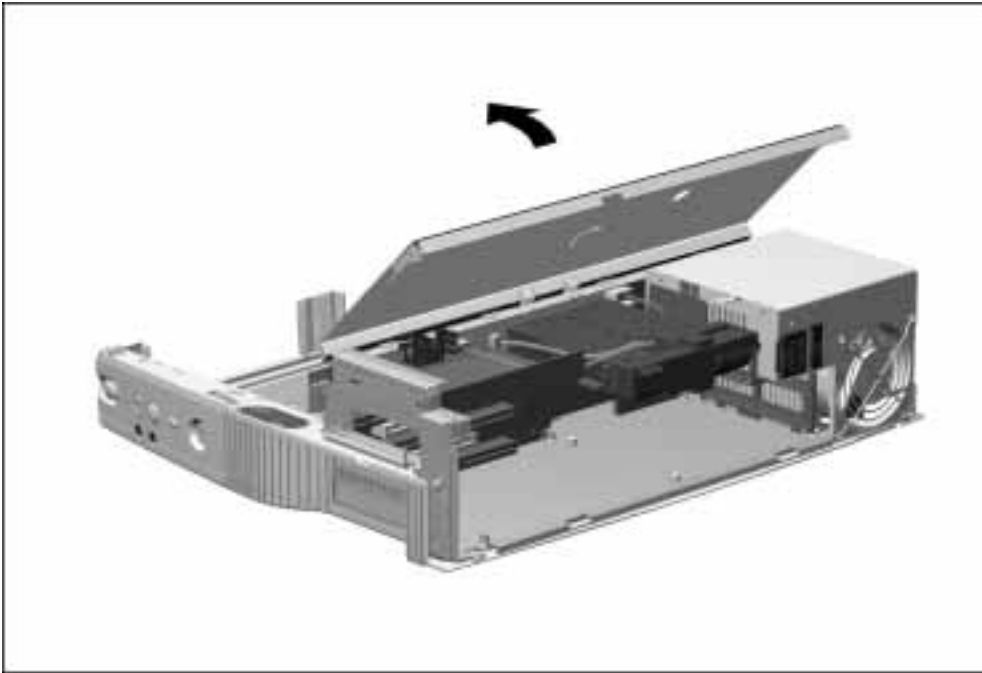

Figure 5-35. Removing the Top Brace
7. Lift up on the rear edge of the top brace and swing the brace forward until it clears the ArmadaStation (Figure 5-35).